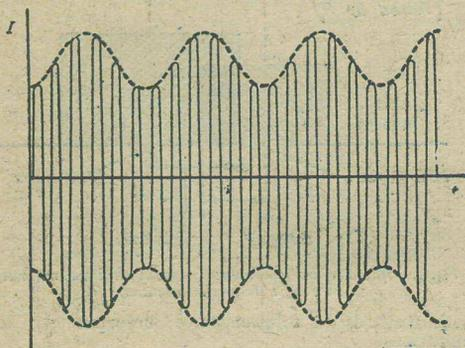

Fig. 1.—The carrier wave of a transmitter modulated by a sinusoidal note.
**T**HE carrier wave which is radiated by a transmitter when it is in operation, but not actually emitting a programme, is of a constant frequency, its wavelength being that allotted to the transmitter. As soon as a programme is radiated the carrier wave becomes modulated by the audio-frequency components of speech or music in a manner depending upon the system of modulation employed. The most general system of modulation is of the amplitude variety where the audio and high frequency components are combined in such a way that the amplitude of the latter is caused to rise and fall at the frequency of the former. (Fig. 1.) We need not concern ourselves here with frequency modula-
Suppose, for simplicity, that a pure note struck on a piano is allowed to impinge on the diaphragm of a microphone connected appropriately to a transmitter emitting a steady carrier wave of frequency  $f$  cycles per second. As a result of the electrical fluctuations created by the microphone due to the sound waves of the pure note, the aerial current of the transmitter is modulated at the note frequency which we may suppose to be  $f_1$  cycles per second. This condition will be as illustrated in Fig. 1, where the dotted curve is the modulation envelope, and for a pure note such as we are considering is sinusoidal in nature.